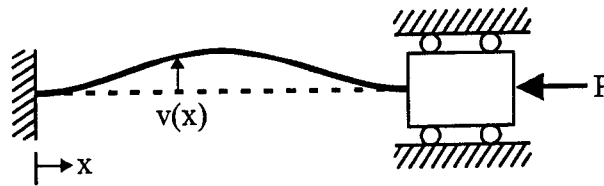

Figure 7
7. (a) The bending equation for a cantilever beam, loaded and constrained as shown in Figure 7 below, is of the form: